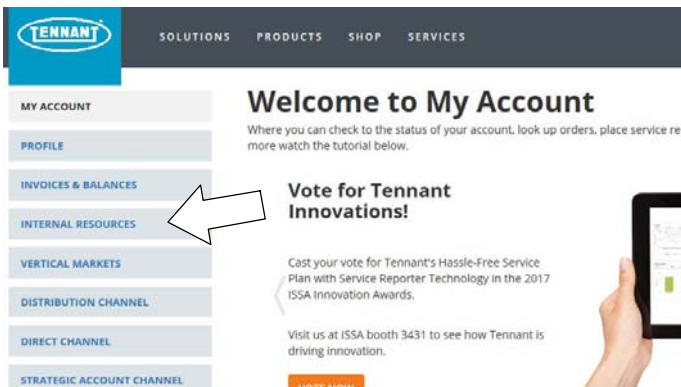

Fig. 34
2. Once logged in to the “My Account” website, click on the “INTERNAL RESOURCES” link as shown below (Figure 34).